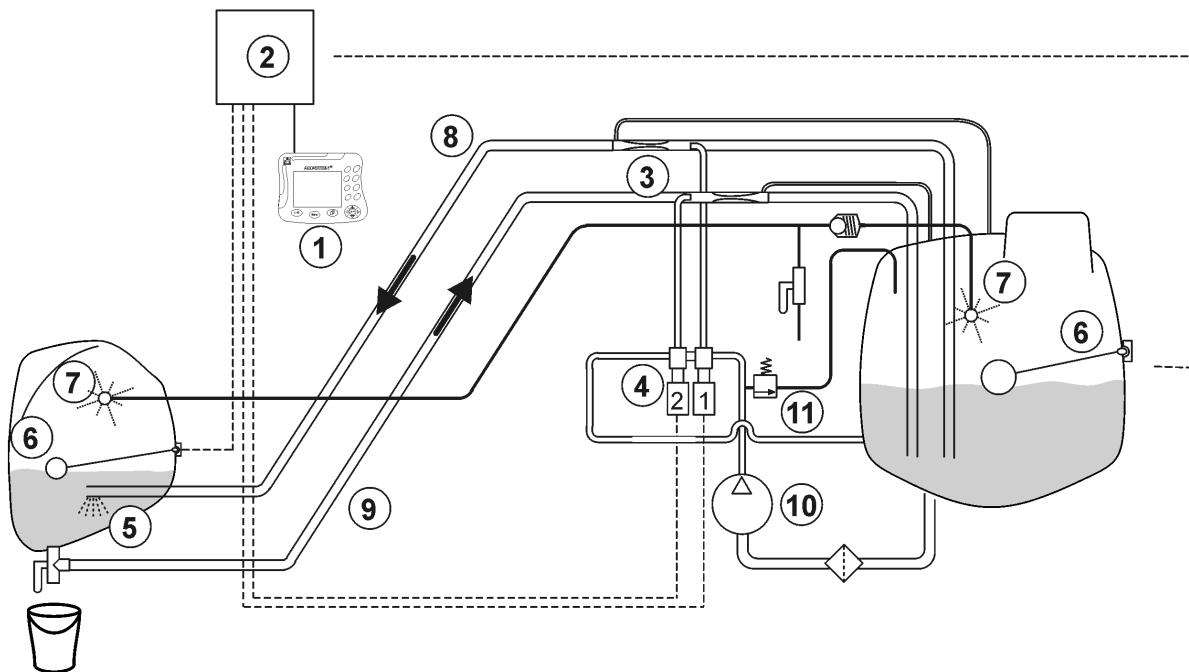

Fig. 16
1. Couple the connection hose (Fig. 16/1) from the front tank with the filling connection (Fig. 16/2).
2. Switch tap on the front tank (Fig. 16/3) in **X** position.